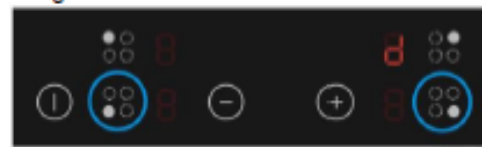

Fig. 53
2. Press the Power keys of the front zones at the same time until you see the letter "d" or "d" and "o" in the display of the cooking zones (see Fig. 53).